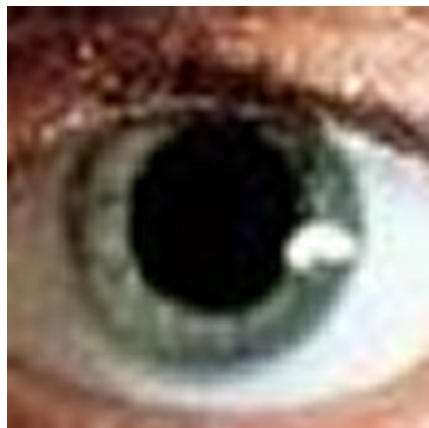

Fig.3: A typical eye with a 10X zoom.
iii) The raw images are temporary stored in the DataBase (DB) Unit (see Figs.3, 4). It uses SQL language, and is linked to the system by SQL TOOLKIT by NI.